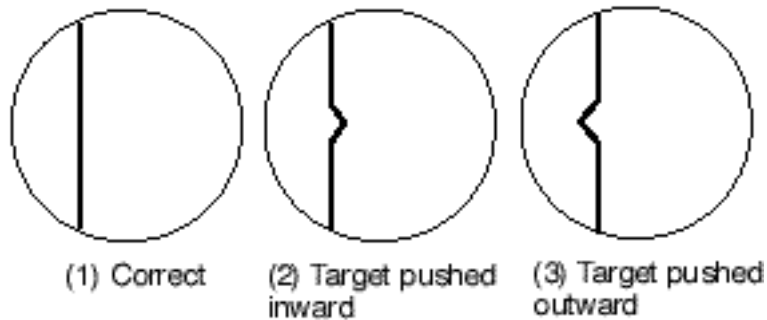

Figure 4-5 Examples of correct and incorrect sweep timings
- The echo of a “straight” target (for example, pier), on the 0.25 nm range, will appear on the display as being pulled inward or pushed outward. See Figure 4-5.